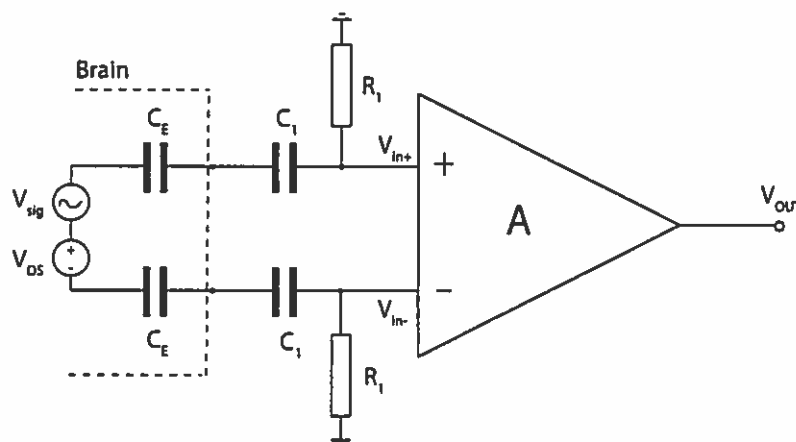
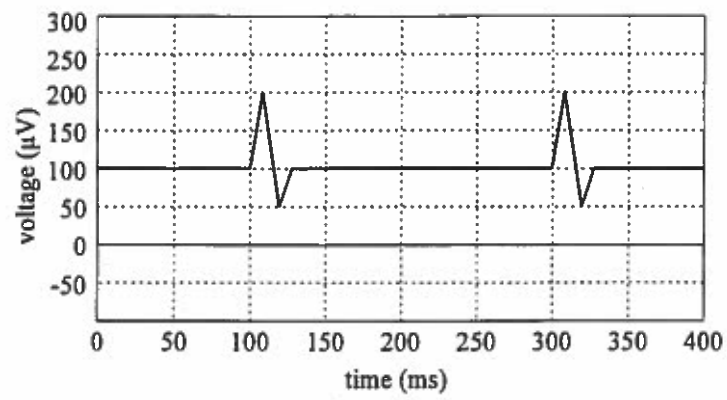

Figure 1.1
Figure 1.2
- b) Figure 1.1 shows an AC coupled bio-potential amplifier for measuring neural activity from the brain. The electrodes used have a capacitance  $C_E=60\mu\text{F}$  and  $V_{\text{sig}}$  and  $V_{\text{os}}$  denote the measured bio-potential and common mode offset.
- c) The Bio-potential amplifier in Figure 1.1 is used as part of a monitoring system to detect the action potential signal shown in Figure 1.2. The gain of the bio-potential amplifier is set to  $A=1000$ . The output of the Bio-potential amplifier is band-pass filtered between 0.3KHz and 5KHz with a 20dB/decade high-pass followed 40dB/decade low-pass filter. A final gain stage is added to maximize the dynamic range between +3V to -3V.
- Choose suitable gains and calculate resistor values to ensure that the action potential shown in Figure 1.1 utilises the maximum dynamic range of the measurement system. [4]
- d) The bio-potential amplifier shown in Figure 1.1 is to be modified to allow a fully integrated implementation in CMOS for recording from a micro-needle array. The requirements are the gain of the modified amplifier is set by a ratio of capacitors and the output and input common mode voltages at DC are the same. Sketch the schematic of the modified bio-potential amplifier. [2]